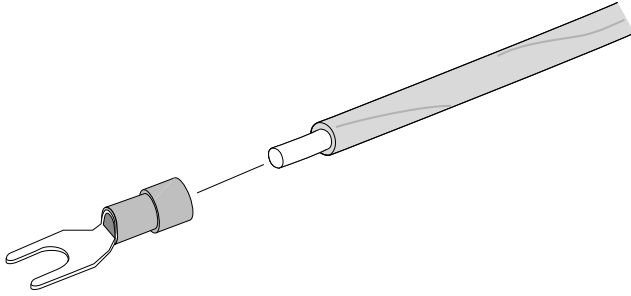
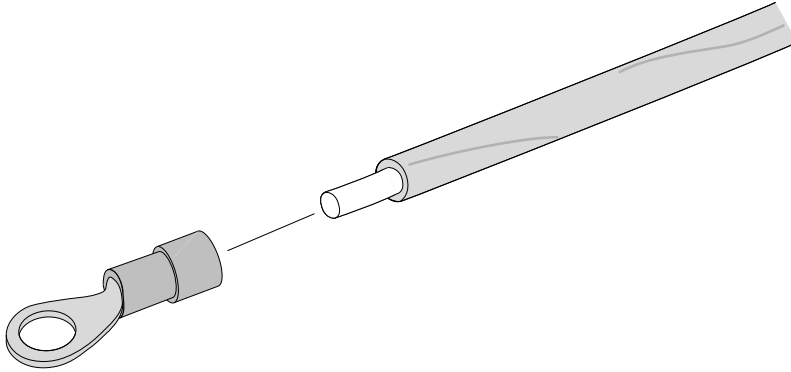

Figure 239: Attaching Power Connection Terminals to Cables
Figure 240: Attaching ground terminal to cable
- 2 Insert the stripped wire end all the way into the barrel of the terminal (see Figure 239: Attaching Power Connection Terminals to Cables on page 273 and Figure 240: Attaching ground terminal to cable on page 273) and crimp the terminal securely to the wire.